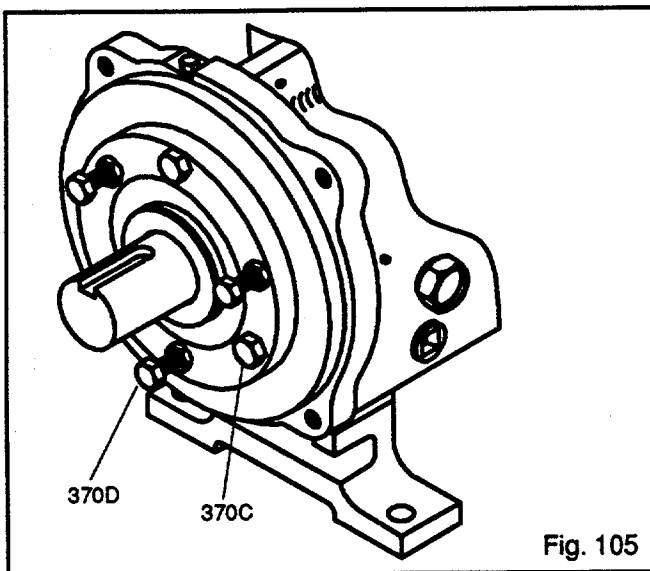

Fig. 105
1. Clean casing fit and install casing gasket (351) in place on seal chamber/stuffing box cover.
2. Loosen clamping bolts (370C) and jacking bolts (370D) on bearing housing (Fig. 105).